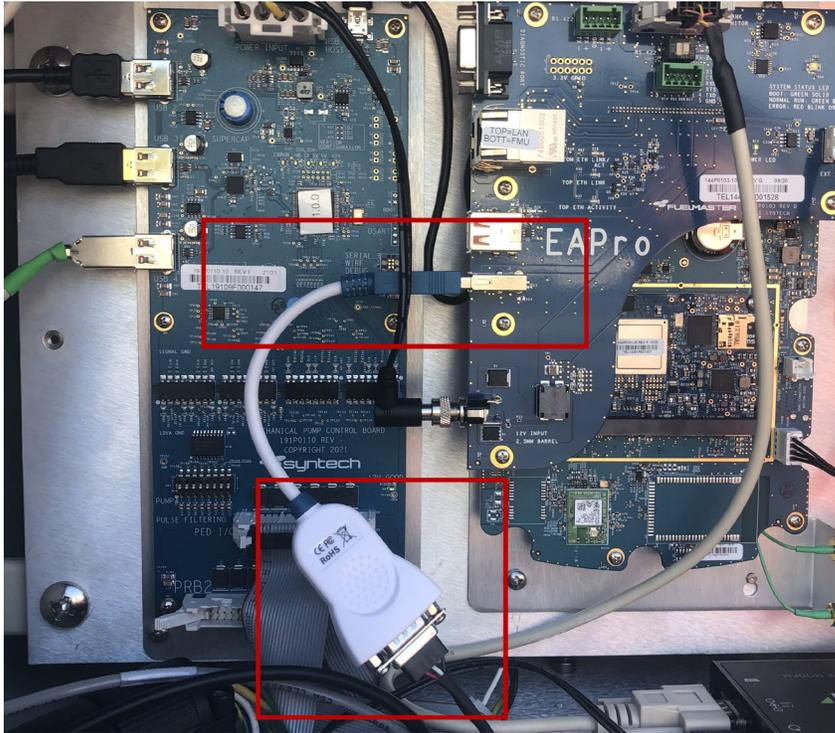

Figure 3. Connect Communications Cable - FMLive
- b. For FMLive hardware, connect the communications cable to the USB to Serial connector on the EAPro (Figure 3).